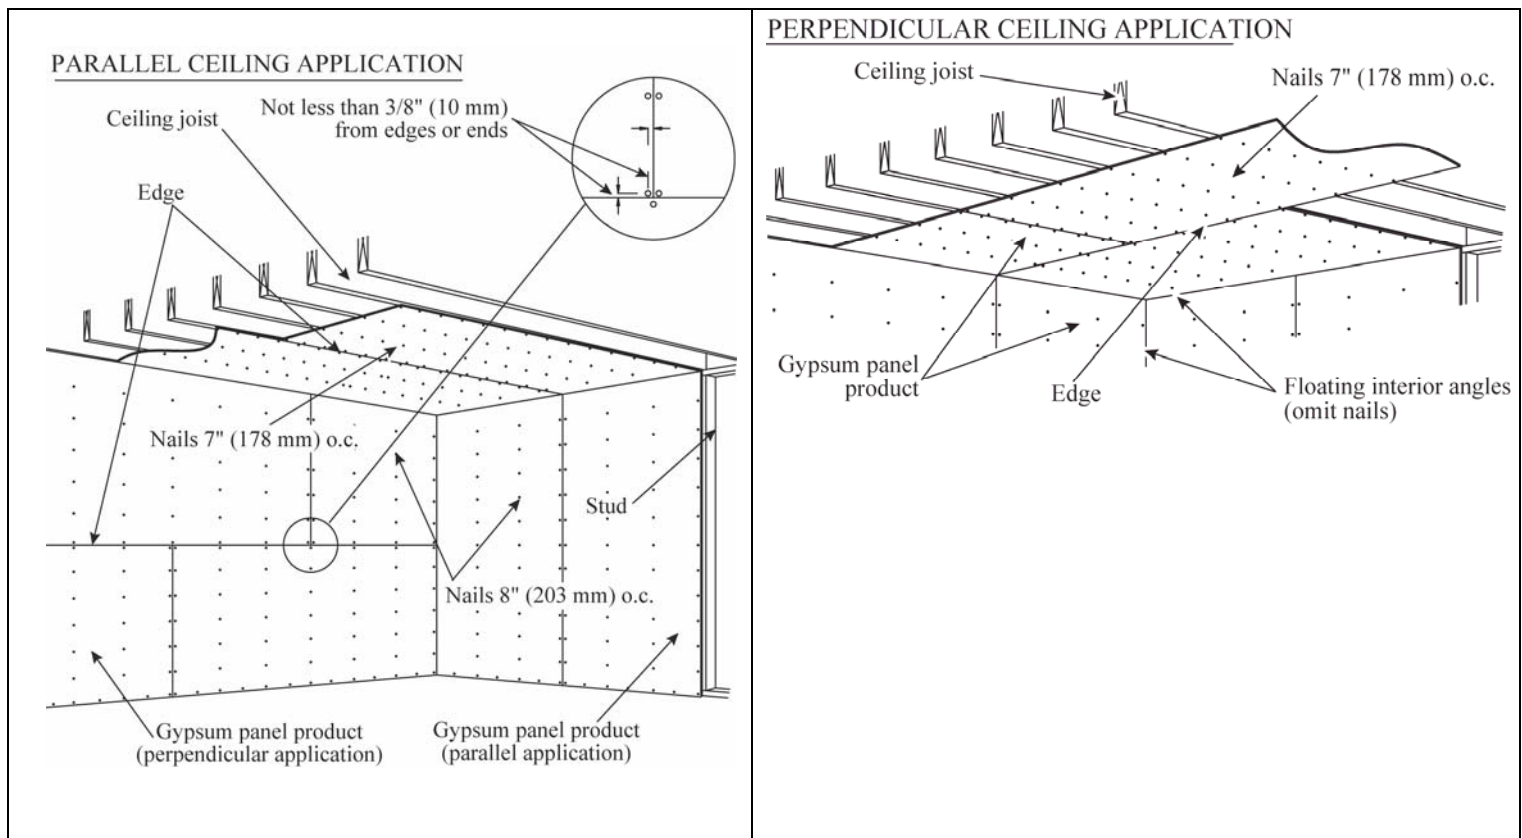

Figure 2 – Single Nailing
5.3.1 Nails for single nailing should be spaced a maximum of 7" o.c. on ceilings, and a maximum of 8" o.c. on walls. (See Figure 2.)